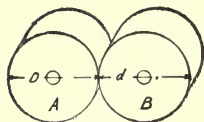
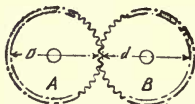
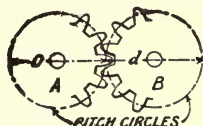

FIG. 146.
FIG. 147.
FIG. 148.
**335. The Principle of Gearing.**—The principles underlying the design of gears may be best understood by considering the historical development of the gear. Originally transmission of power in machines was carried out by two smooth cylinders placed close together, as in Fig. 146, the revolution and friction of one causing the revolution of the other. Smooth cylinders, however, tend to slip when under a load, so projections or notches were placed on their surfaces, as in Fig. 147. Here the diameters  $D$  and  $d$  are the
same size as on the rollers in Fig. 146. Teeth were simply added to gear *A* and corresponding notches cut in gear *B*. These two gears did roll together without slipping, but as the teeth were short their points soon wore off. To overcome such troubles, the teeth on gear *B* were made twice as long
and the corresponding grooves or recesses in gear *A* were cut twice as deep, as in Fig. 147. Today this is the design of the teeth. Gears are made by casting a blank wheel and then cutting the teeth in the gear according to the above design.
Note that the inside dotted circles in Fig. 148 are exactly the same size as the rollers in Fig. 146 and are called pitch circles. When the gears turn together they simply roll together on the dotted circles just as they would do if they had no teeth.